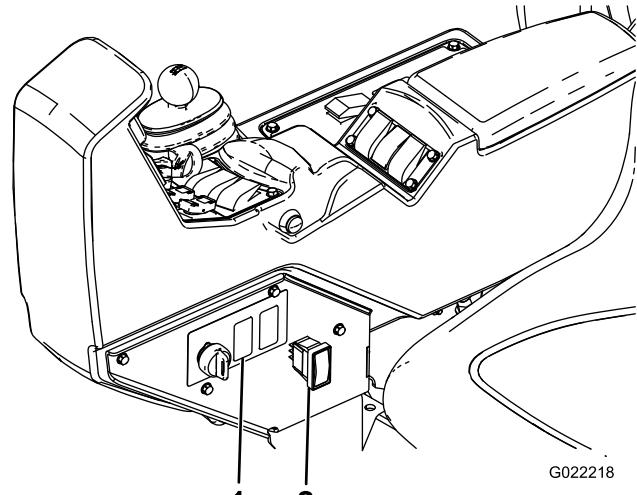

Figure 14
1. Locate the plug for the rinse tank switch on the side of the sprayer console and remove the plug (Figure 14).
4. Install the switch to the box connector through the console (Figure 14).